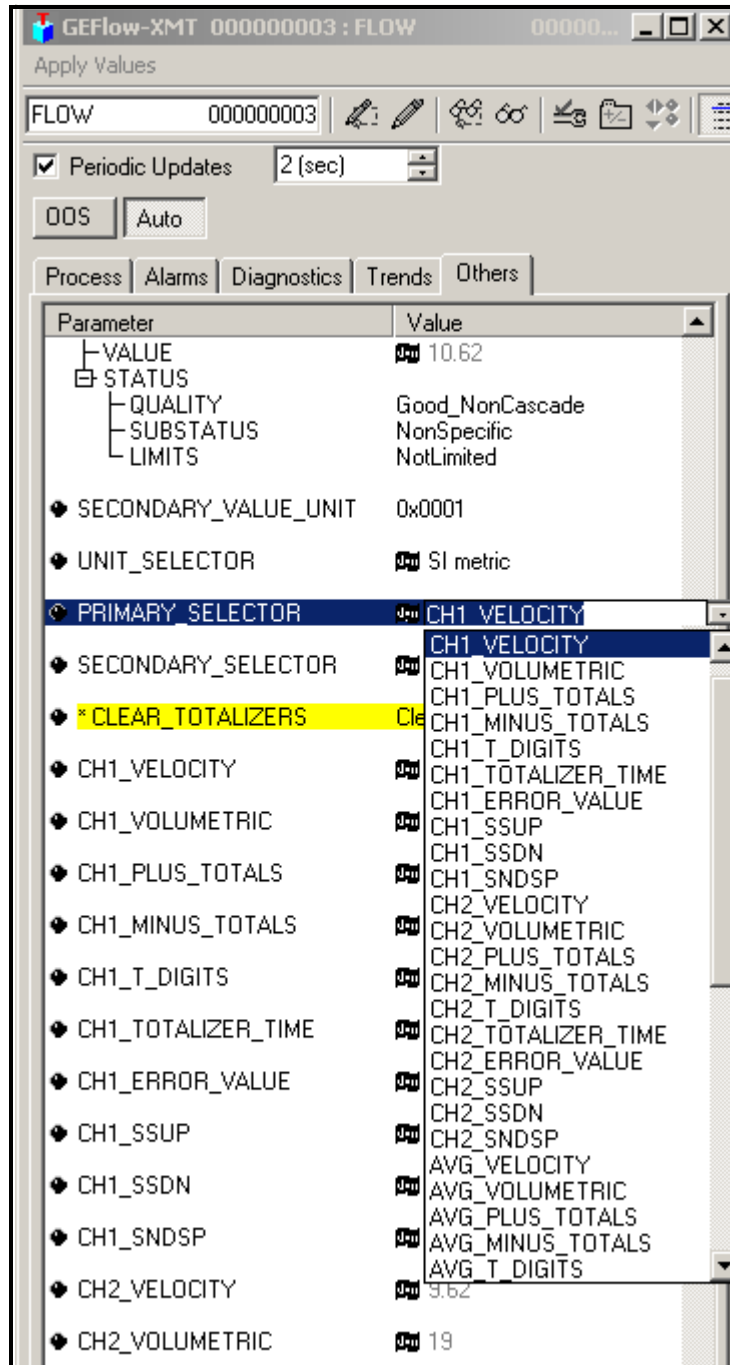

Figure 41: Primary Selector Drop Down List
2. Select the **Others** tab and open the drop down list for the PRIMARY_SELECTOR and SECONDARY_SELECTOR (see Figure 41 on page 111).
3. Choose the unit from the list (see Figure 41 on page 111).